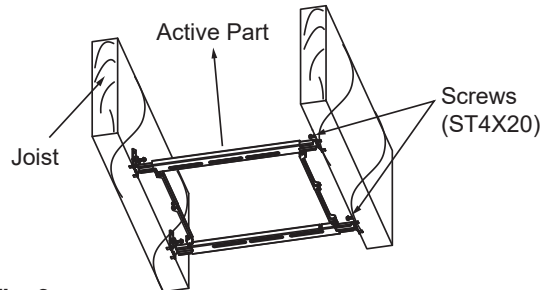

Fig. 3
2. Attach one side of the bracket assembly to the joists by drilling 2 captured self-tapping screws (ST4X20). See Fig. 3.
3. Adjust the length of the bracket assembly by pulling the unsecured end of the bracket assembly towards the joist. Attach the unsecured side of the bracket assembly to the joist by drilling the (2) captured, self-tapping screws (ST4X20) to the joist. See Fig. 3.